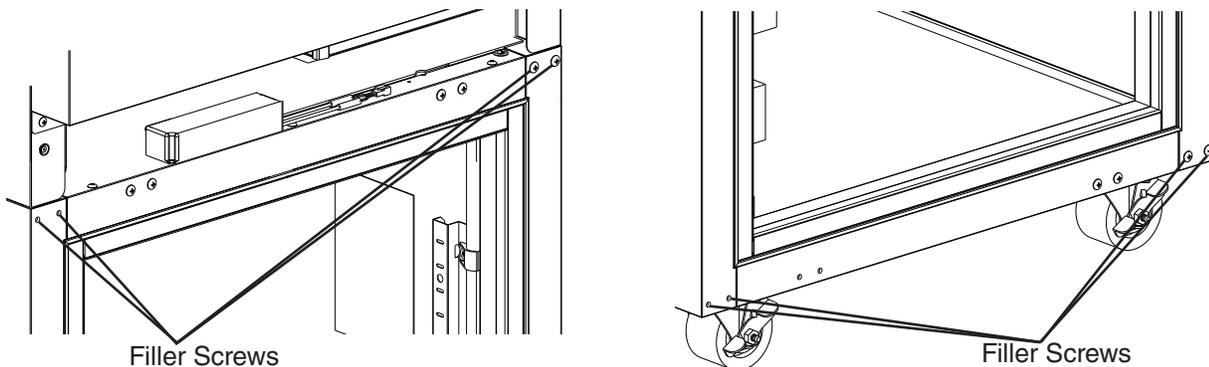

Fig. 43
11) Move the upper and lower filler screws to the opposite side of the cabinet. See Fig. 43.